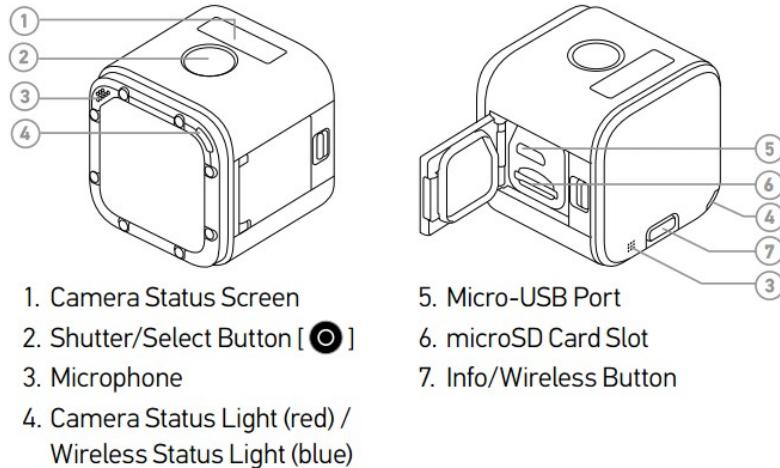

Figure 7: GoPro© HERO4 SessionTM Camera Parts
- Refer to Figures 7 and 8 for camera and tablet setup